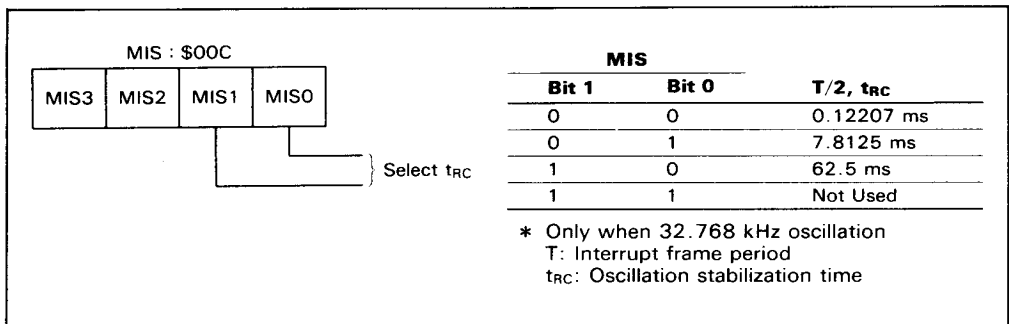

Figure 14. Miscellaneous Register
Interrupt Frame: In Watch mode and Sub Active mode, the time-base clock (ϕ_{CLK}) is applied to timer A and the INT_0 circuit. Prescaler W and timer A operates as the time-base and generate the timing clock for the interrupt frame. The interrupt frame period (T) depends on the state of the miscellaneous register as shown in figure 14.